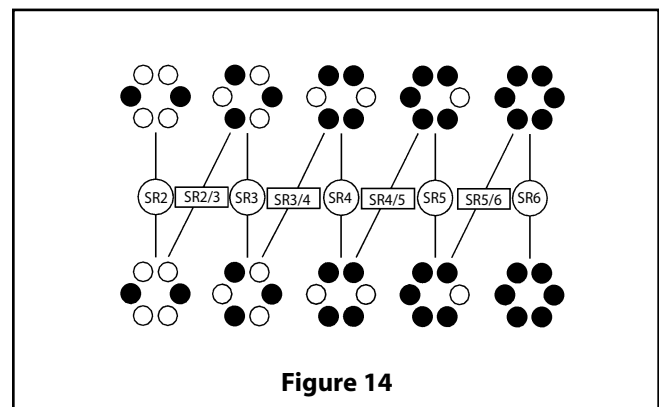
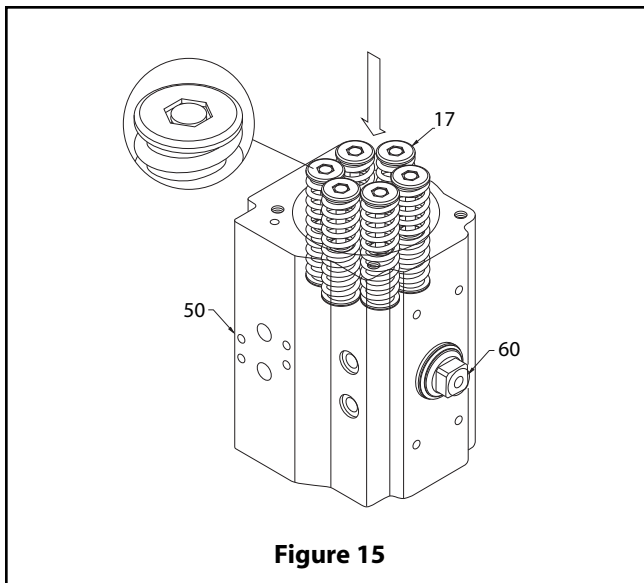

Figure 14
Figure 15
3. End Cap (30, 31) and Spring Cartridge (17) Assembly, (Figures 14 through 16):
- A. For spring-return actuators, insert the proper quantity of spring cartridges (17) according to the pattern shown in **(Figure 14)** (referring to the total number of springs). Insert spring cartridges (17) as shown in **(Figure 15)**.